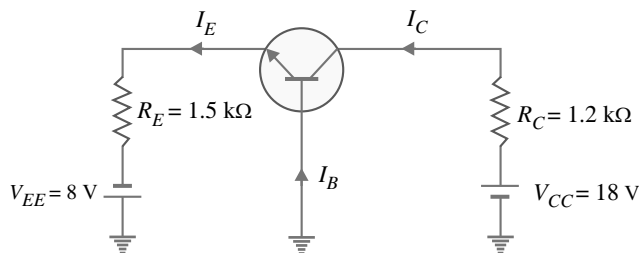

Fig. 6.14
**Example 6.11.** For the common base circuit shown in Fig. 6.14, determine  $I_C$  and  $V_{CB}$ . Assume the transistor to be of silicon.